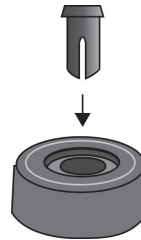

Figure 80. Inserting the Rivet Housing into the Bumper Foot
2. Inset a rivet housing into a bumper foot. Refer to Figure 80.